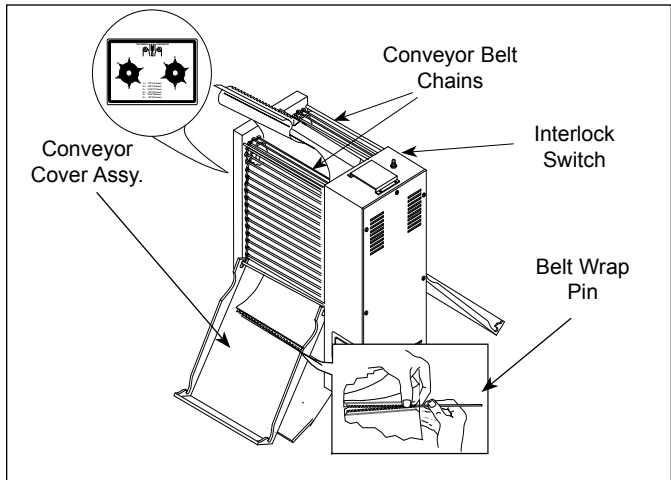

**Figure 8. Folding the Release Sheet**
2. Lay a new Release Sheet on a clean, dry surface and fold it in half lengthwise and gently crease it at the fold using only your fingers (Figure 8).